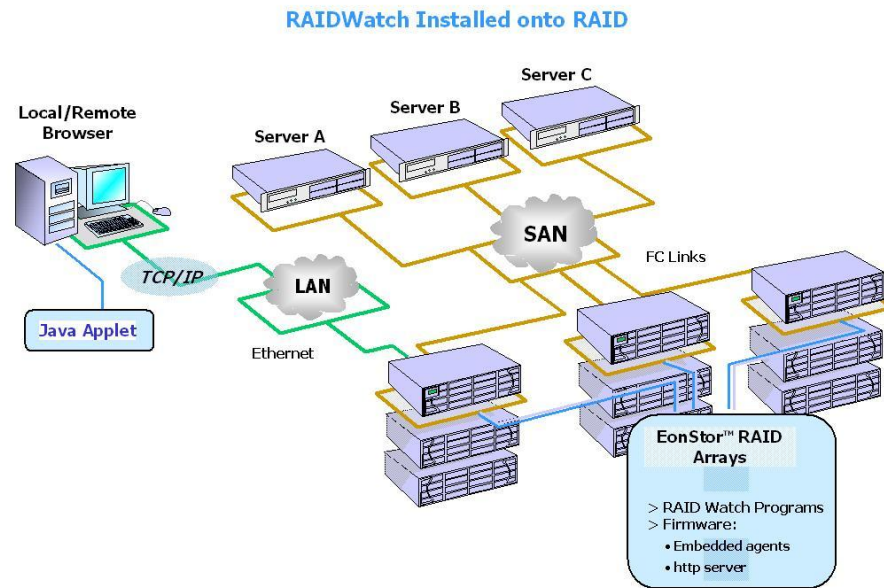

Figure 1-5: Typical RAIDWatch Connection – Applet Mode
3. **Stand-alone/Out-of-Band (on Host) installation:** This installation provides management access with no centralized management utility. Event notification is provided through an independent NPC utility. RAIDWatch accesses RAID subsystems over the network through the command exchanges between a manager station and RAIDWatch programs that exist in array hard drives. See *Figure 1-5* for more details. The management session and the NPC configuration screen are provoked as Java Applet.